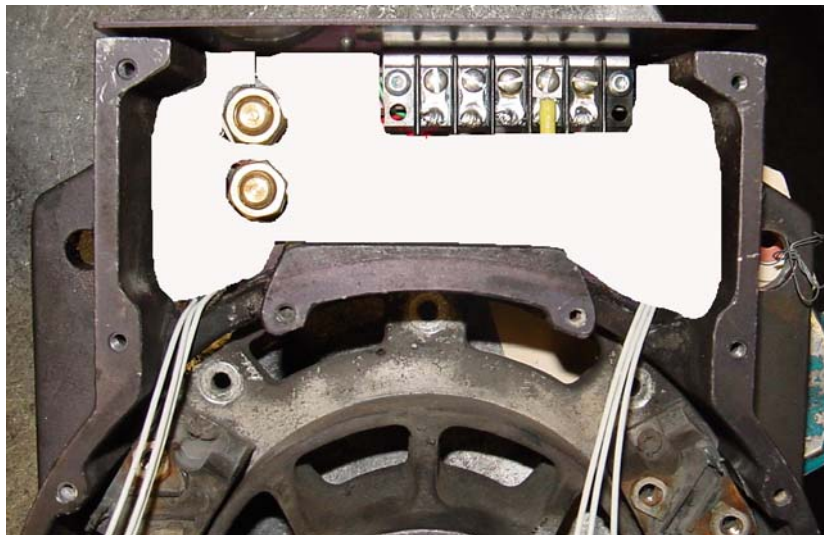

Figure 3—Fill Area of Control Unit
5. Fill the cavity inside control unit with GE Silicones® RTV11® silicone (2 part) or equivalent (see Figures 3 and 4):
- b. Make sure resistor assemblies are pressed into bottom of cavity. Resistors and their sleeves must be completely covered with new silicone. See Figure 3.